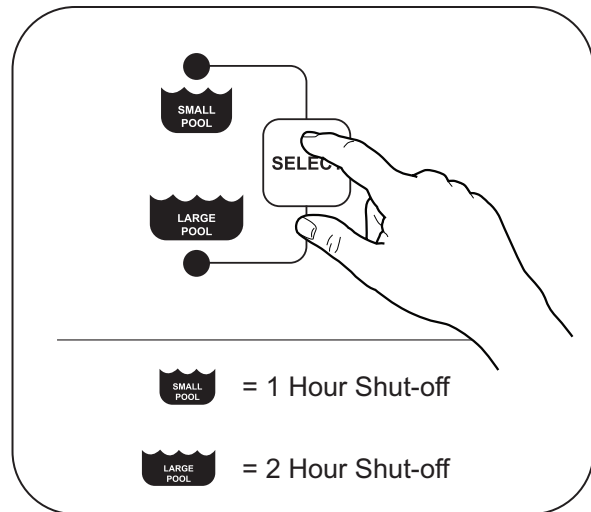

Figure 7. Select Pool Size and Duration
2. Press Select button to choose between Small Pool and Large Pool. Cleaning duration for Small Pool is 1 hour; for Large Pool, duration is 2 hours (Figure 7).